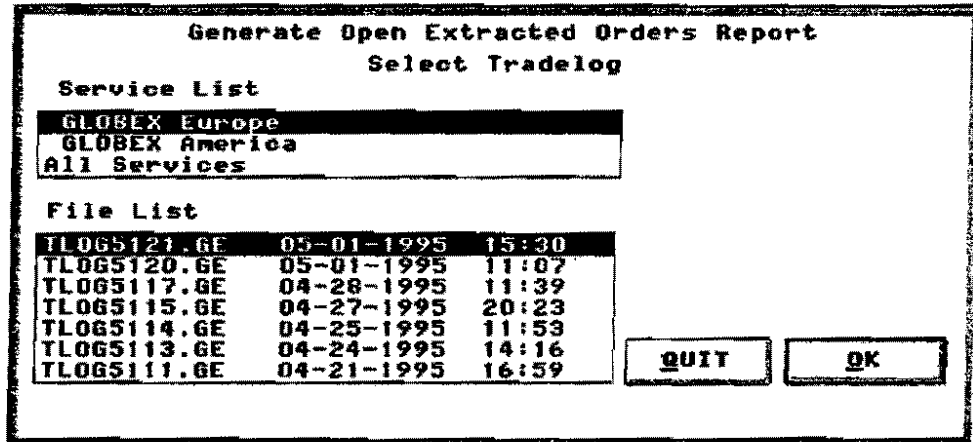

Figure 12.18 Generate Open Extracted Orders Report Dialog Box
1. Select **Open Extracted Orders** in the Reports menu to display the dialog box shown in Figure 12.18. The highest priority Service is selected, as is the most recent of up to seven tradelog files displayed in the list. (Tradelog file-names are explained in Section 12.4.2.)